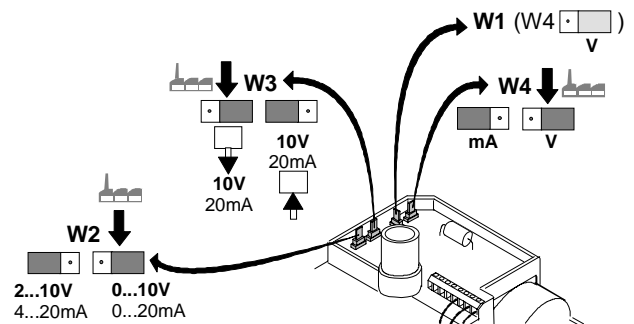

Fig. 8. Location of selector plugs W1, W2, W3 and W4.
The analog input signal (+) range is set at the factory to 0 to 10 Vdc. Changing the position of the W2 selector plug sets the range to 2 through 10 Vdc. Changing the W4 position to mA (see Fig. 8.) the ranges are 0(4) to 20 mA. Selector plugs W1, W2, W3 and W4 are positioned on the back side of the PCB protection sheet. See Fig. 8 for location of the selector plugs.